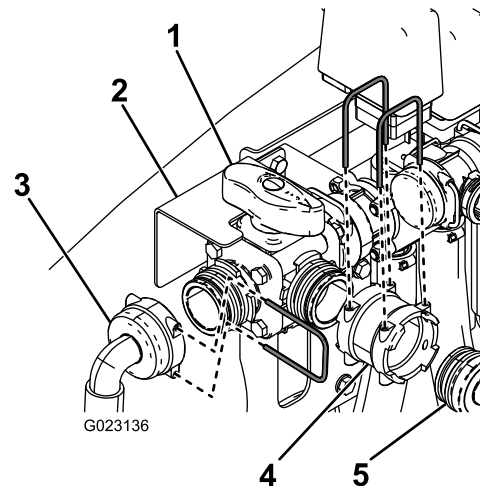

Figure 21
3. Using the previously removed bolts, install the valve bracket over the small bracket (Figure 21).
4. Secure the T-valve to the agitation valve using the previously removed retaining fork (Figure 21).